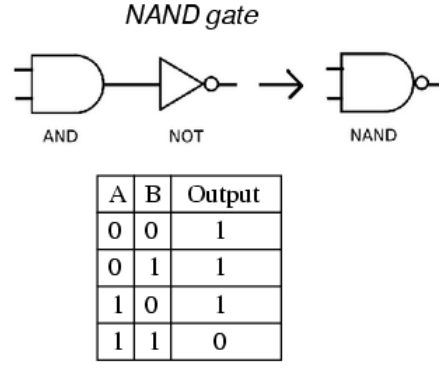
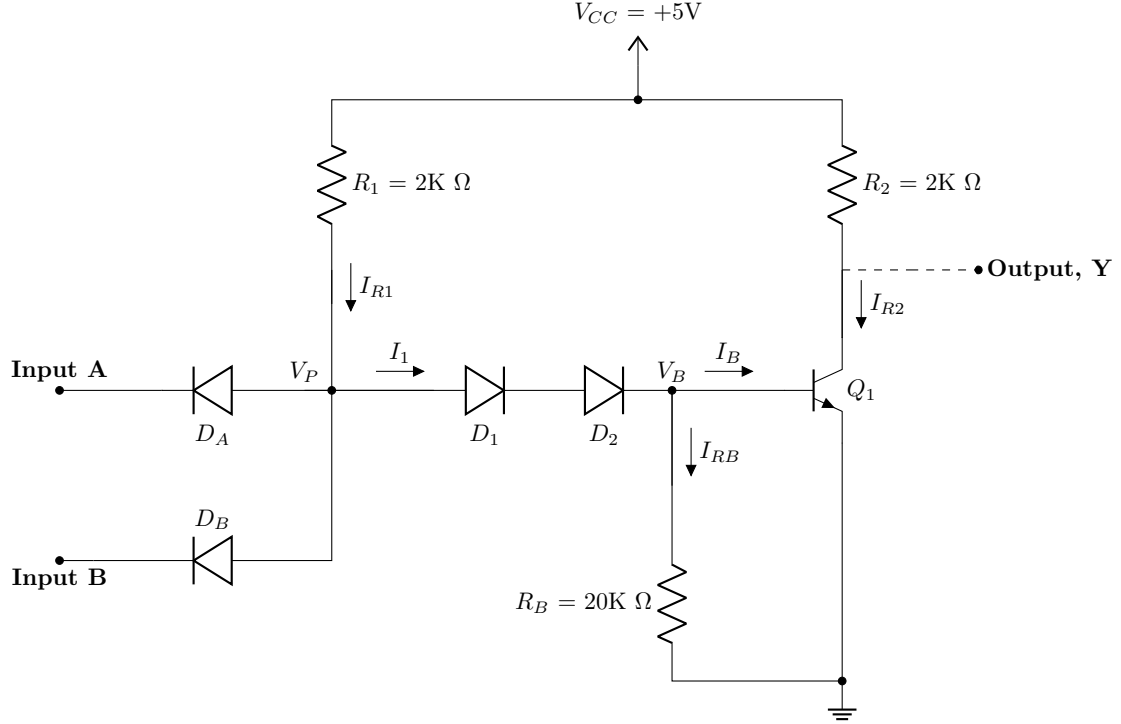

Figure 1: NAND gate Truth Table
Figure 2: Diode Transistor Logic (DTL)
In this task, we will implement a Diode Transistor Logic (DTL) NAND gate. As can be seen in Fig. 1, a 2-input NAND gate outputs a logical HIGH if at least one of the inputs is LOW. Otherwise, the output of the NAND gate is logical LOW. It can be created by passing the output of a AND gate through an Inverter or NOT gate. One can build all other logic gates using such NAND gates. The DTL implementation of a NAND circuit is shown in Fig. 2.
On the input side of Fig. 2, we can see two diodes in reverse bias connection with respect to input - this acts as an AND gate circuit according to diode logic. The output of this AND gate is fed to the inverter input V_B (base terminal of BJT Q_1) through the diodes D_1 and D_2 creating the NAND circuit. The output is obtained at the collector terminal of Q_1 .
As mentioned in the previous task, when either of the input terminals are HIGH, the corresponding diode operates in the reverse bias region - meaning it is virtually disconnected from the circuit. So we can say that if one of the inputs are set to logical HIGH, we can ignore that diode altogether, and the remaining diode input acts as a single input to the RTL inverter. Thus the resulting circuit acts as an inverter circuit (NOT gate). A roundabout way of explaining this is via the truth table of the NAND gate (Fig. 1) - when one input is set to HIGH, the output follows the inverted logic of the remaining input.
1. Connect the circuit as shown in Fig. 2.
3. Operate the gate in Fig. 2 as an inverter by connecting either of the inputs to +5V and using the remaining one as input terminal. Fill up table-2.
2. Assume that the **output** of the circuit shown in Fig: 1 is **LOW**. Draw the partial circuit consisting of only those components which remain active.